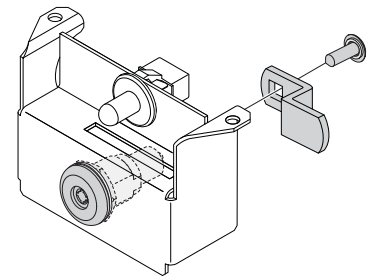

Figure 6. Offsetcam Installation
6. Secure offset cam to rear of tumbler using lock washer and screw provided. Make sure offset is forward and in line with slot in switch bracket. (See Figure 6).